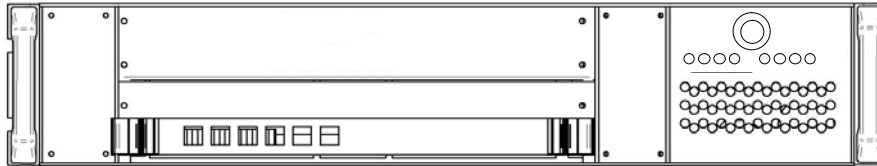

Figure 8: Front Control Panel
- *6U VME Boards Bay: Rear* the front control panel is located on the left side of the front panel (refer to Figure 8).
- *6U VME Boards Bay: Rear* the rear control panel is located on the **right** side of the front panel (refer to Figure 8).